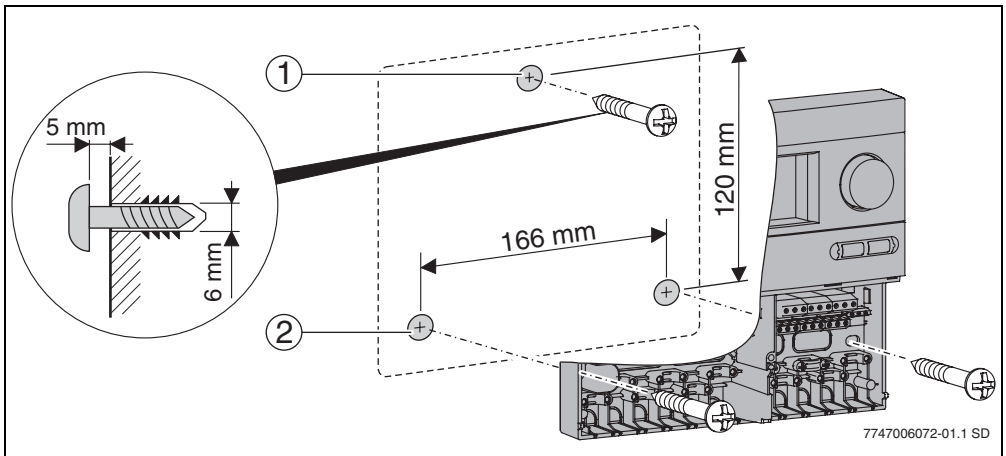

Fig. 3 Mounting the programmer on a wall
- ▶ Drill top fixing hole (→ Fig. 3, Item 1) and screw in the screw supplied leaving a length of 5 mm protruding.
- ▶ Mark bottom fixing holes (→ Fig. 3, Item 2), drill holes and insert plugs.